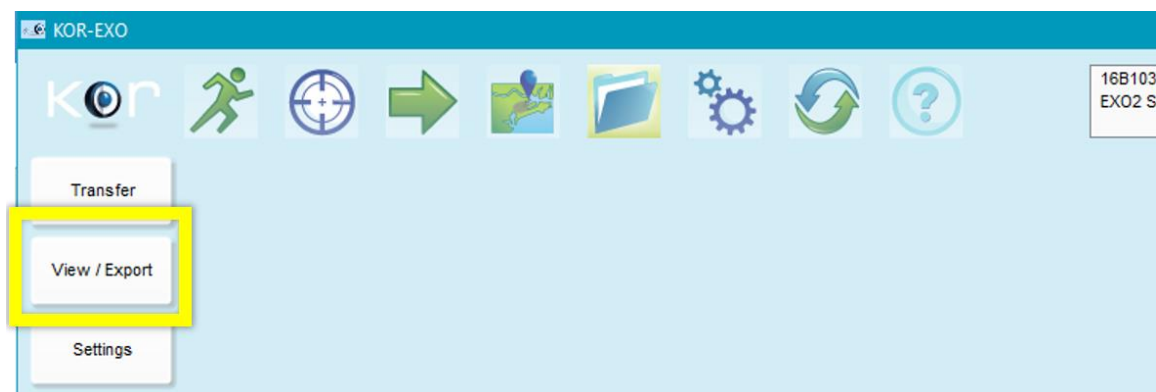

Figure 13. Select "View/Export"
2. Select "View/Export" (Figure 13).